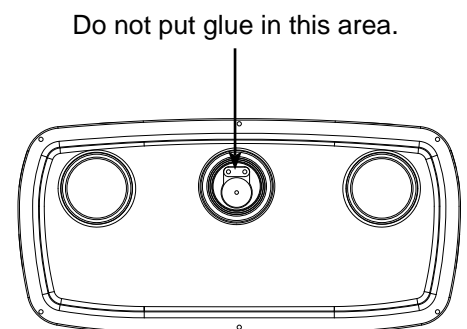

Figure 5.3
**CAUTION** When applying solvent weld to discharge fitting, ensure that none gets into the check valve assembly (see Figure 5.3). Pay close attention to the proper alignment of the discharge fitting previously marked above.